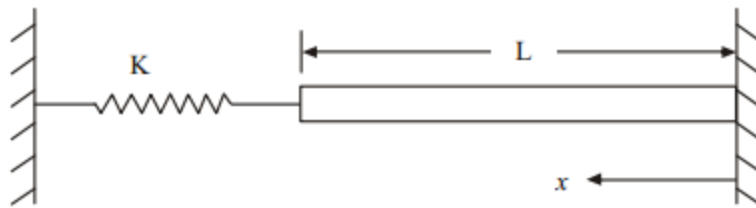

Figure 1
- Q6. A bar of length L is fixed at one end and connected at the other end by a spring of stiffness ' K ' as shown in Figure 1. Derive suitable expression of motion for longitudinal vibration.